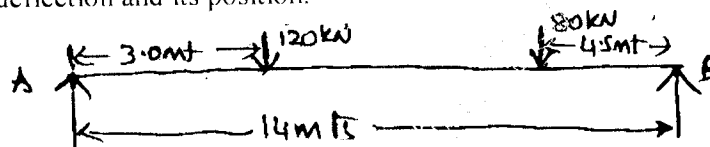

Fig.Q7
- 7 A simply supported beam is subjected to forces as shown in Fig.Q7. If  $EI = 336 \times 10^6$  N mm2. Determine :